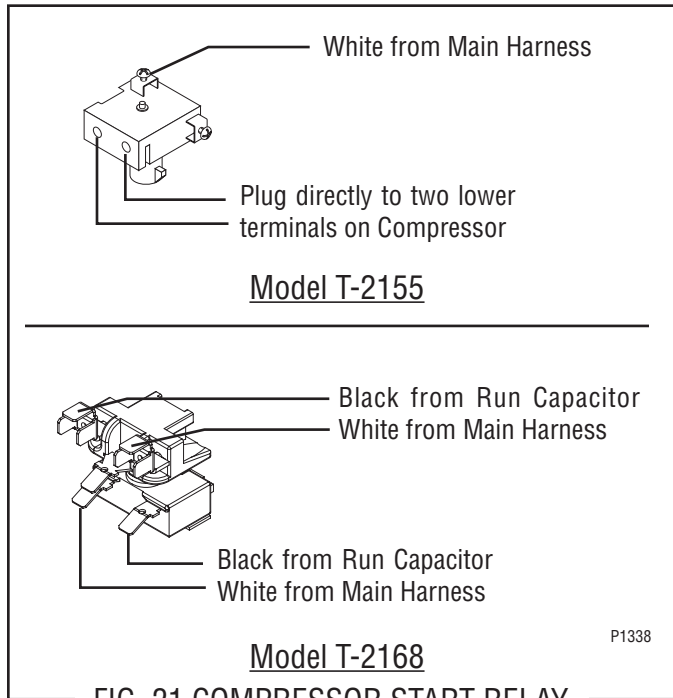

FIG. 21 COMPRESSOR START RELAY
3. Pull relay (1) off of the compressor pins and discard.
5. Refer to Fig. 21 and reconnect the wires.
6. Reinstall terminal cover (4) and cover retainer (5).